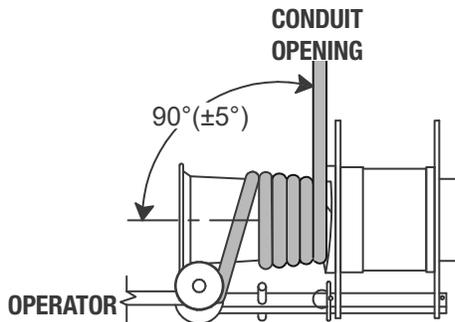

Figure 2: Rope Routing on Puller
10. Set-up the mount for the puller as close to the conduit as possible to minimize exposed rope or in the case of the MVB attached to the conduit opening. The puller should be positioned so the rope approaches the capstan at approximately 90° (±5°). Approach angles outside of this range may cause the rope to overlap. (Fig. 2)